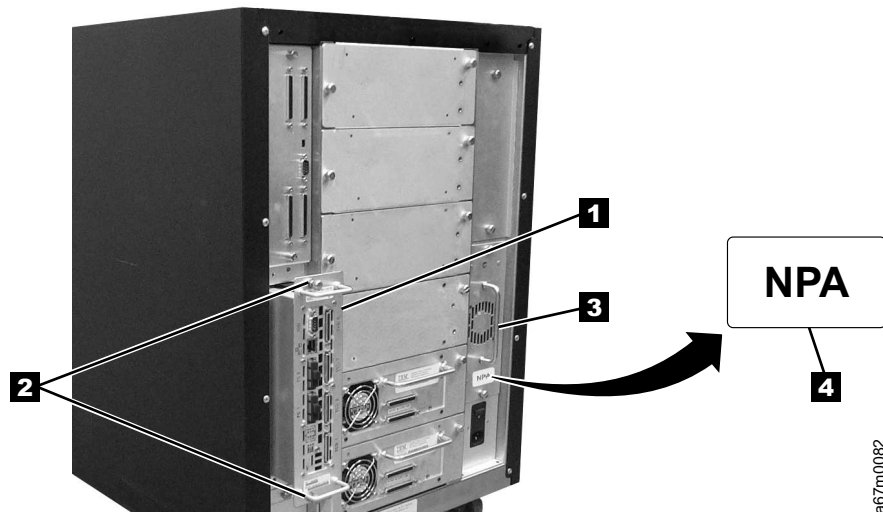

Figure 30. Installing a SAN Data Gateway Module
1. From the rear of the 3583 Tape Library, locate the dc power supply (see **3** in Figure 30) and examine it for a label:
4. From the rear of the library, locate the slot where you want to install the gateway (see Figure 30). Loosen the two captive thumbscrews on the cover plate and remove the cover plate.
5. Slide the gateway into position (see **1** in Figure 30) and tighten the two captive thumbscrews **2** .